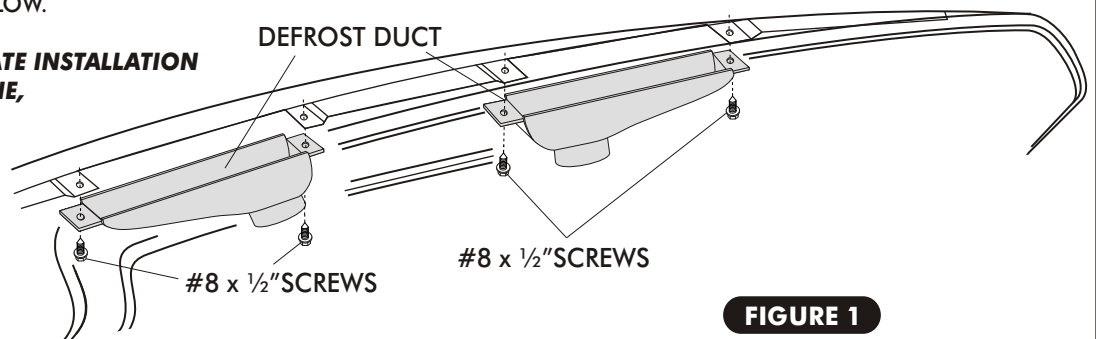

FIGURE 1
- ALIGN DEFROST DUCT WITH OPENING IN DASH, IF APPLICABLE USE OEM MOUNTING HOLE LOCATIONS OR MARK AND DRILL 1/8" MOUNTING HOLES. USE (4) #8 x 1/2" SCREWS, TO SECURE THE NEW DEFROST DUCTS AS SHOWN IN FIGURE 1 BELOW.